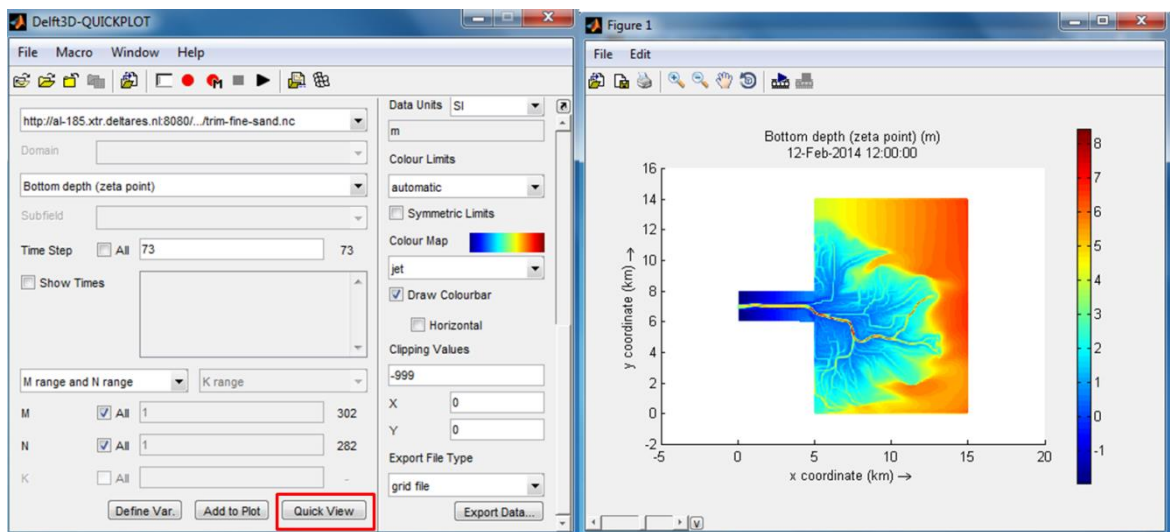

Figure 3.35 Quick view the bed morphology ("Bottom depth") in time.
4. View the variable in using the "Quick view" button (Figure 3.35)